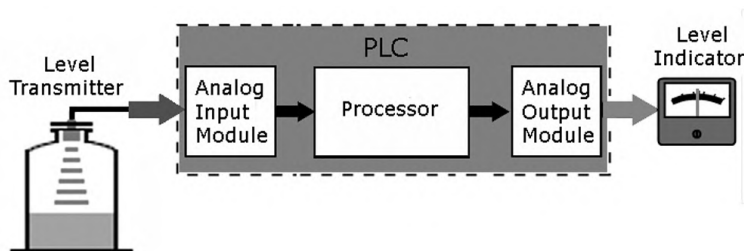

Figure 2-8 Block diagram for question 31.
31. For the block diagram of the analog PLC control shown in Figure 2-8, which part has a binary input and analog output value?